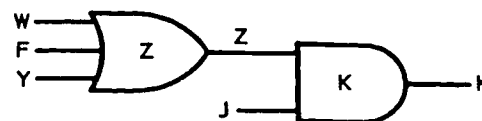

Figure 1-70. Example equation - step 4.
(3) Identify Z as a three-input OR-gate: $(A + B + C)(D + E) + F + G(H + I) = Z$ (Observe that three quantities are connected by two plus signs.)
(4) Draw an OR-gate with the three inputs, W, F, and Y, where W represents $(A + B + C)(D + E)$ and Y represents $G(H + I)$ (fig. 1-70).